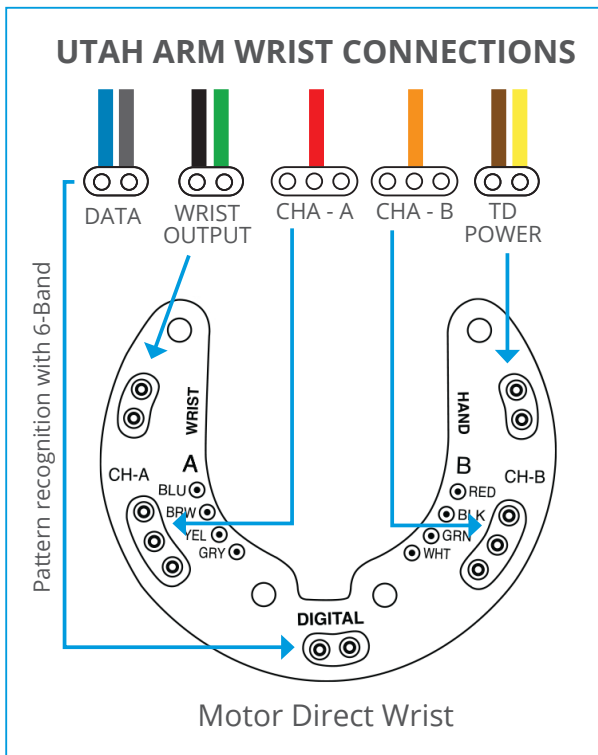

Figure 6
3. Attach elbow wires to the wrist board according to the information in Figure 6.